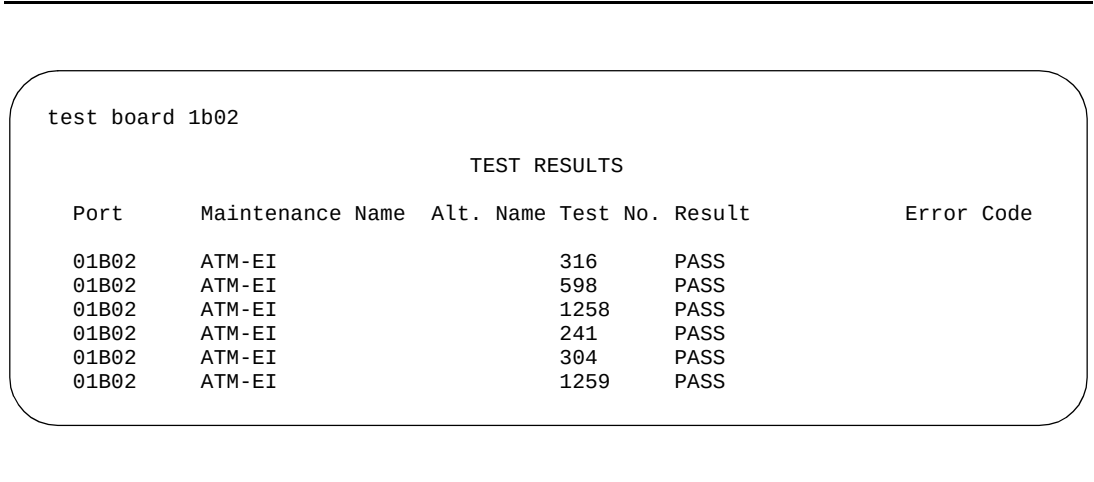
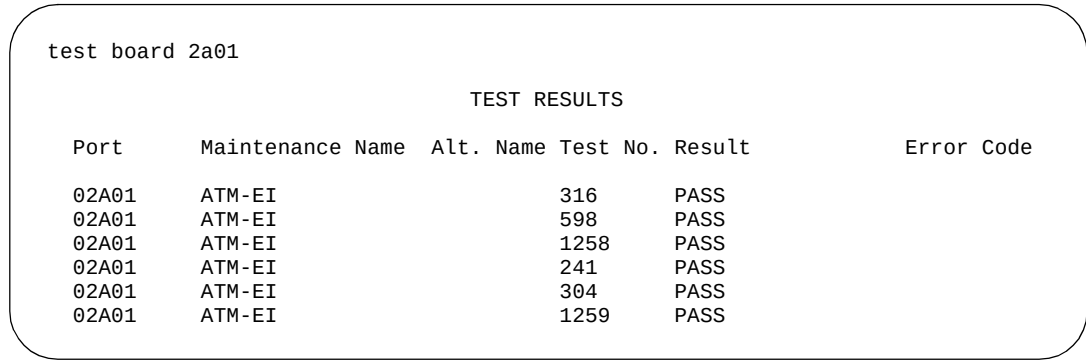

Figure 1-47. Screen output for the test board 1b02 command
Figure 1-48. Screen output for the test board 2a01 command
4. If the TN230X is inserted and shows a vintage number, enter **test board cabinetcarrierslot** for this board on the DEFINITY SAT, as shown in Figure 1-47 (1b02) and Figure 1-48 (2a01).